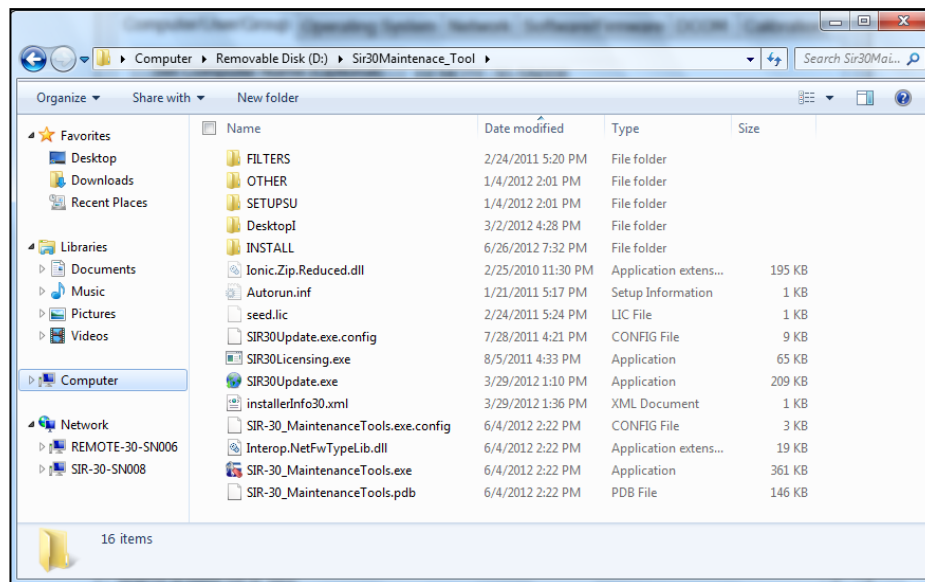

Figure 4: SIR 30 Maintenance Folder with 'hidden' files displayed.
- 6** If the Windows Explorer Folder Options are set to display hidden files the directory will look like Figure 4 below.